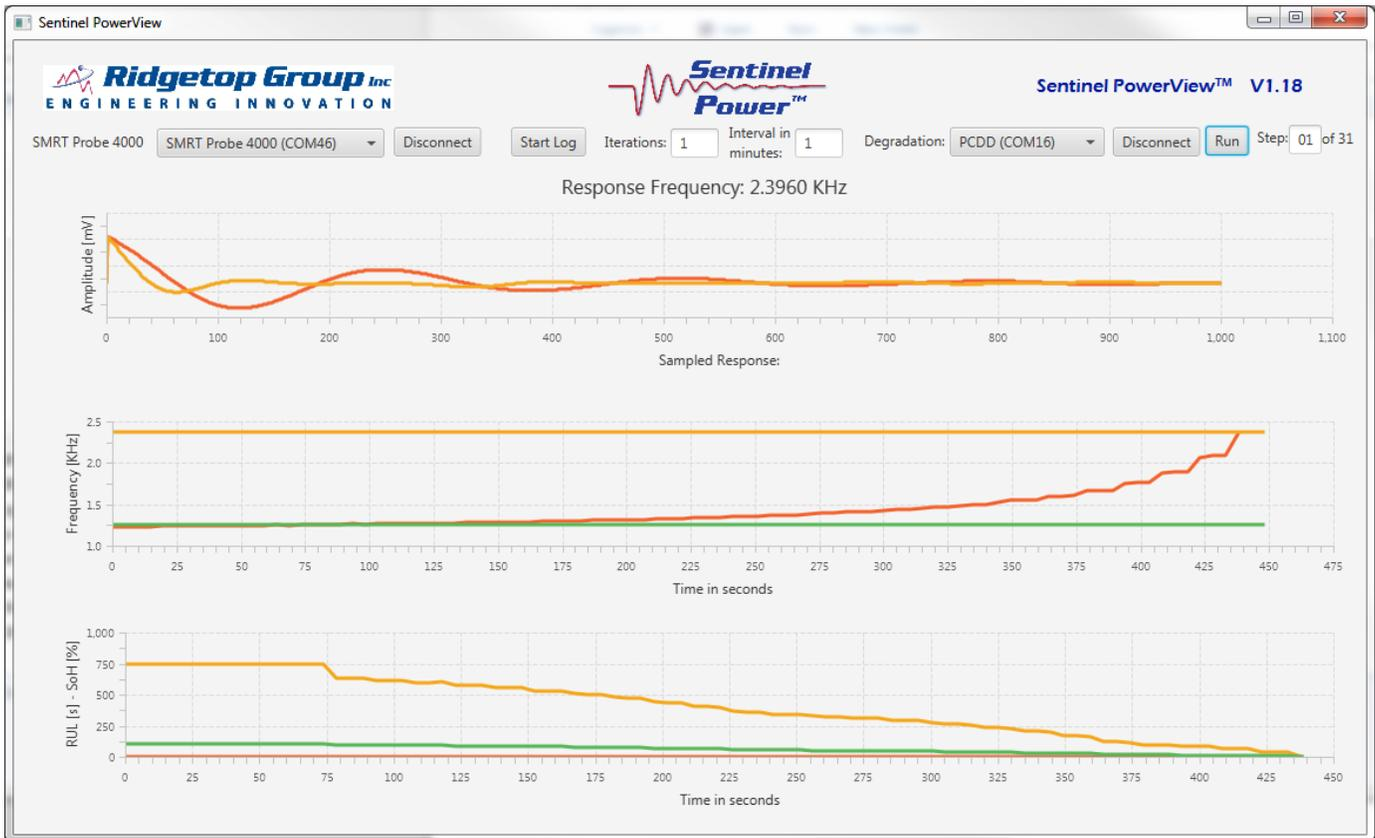

Figure 12: The top graph shows damped waveform and frequency reading; middle graph shows frequency over time; bottom graph shows RUL and SoH over time
7. Once the connection is made, a damped waveform appears and above that, a frequency reading expressed in kHz, as illustrated in Figure 12. Your frequency value will differ from what is shown in the picture.